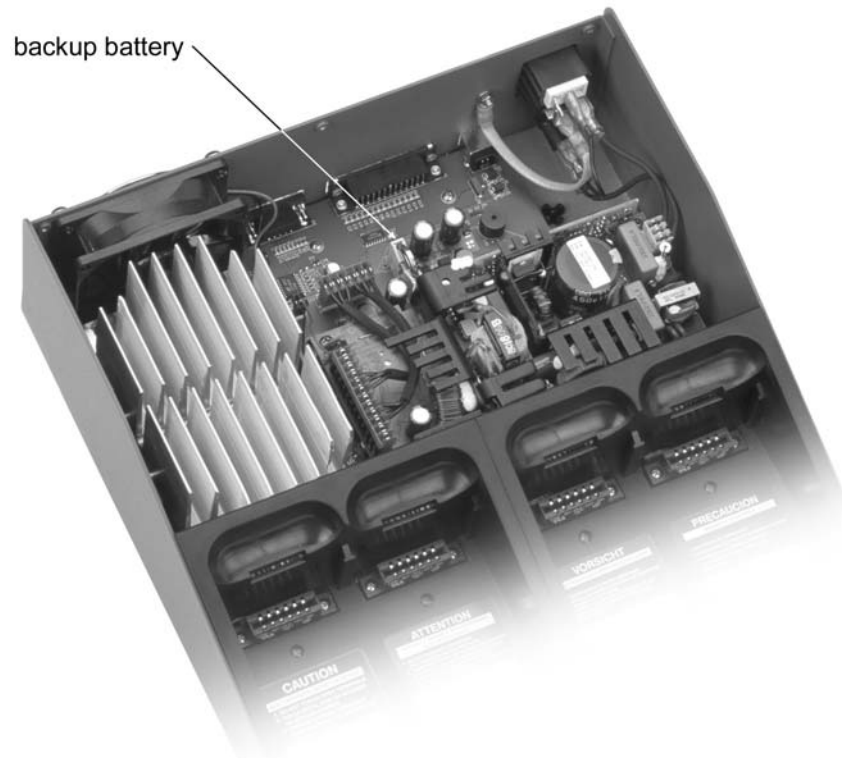

Figure 15: Cadex 7400 with cover removed. The backup battery on the C7400ER is in a similar location
4. The battery is located towards the back of the analyzer (see Figure 15). Carefully remove the existing battery: